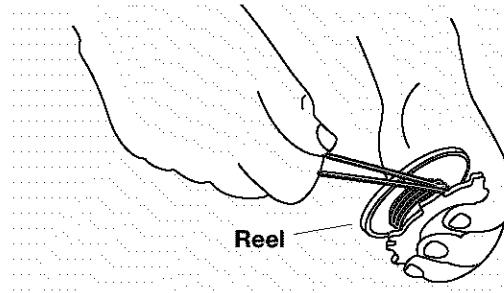

Fig. 24
- Place your index finger between the two lines to stop the lines from overlapping (see Fig. 24).
- Wind both lines at the same time in even and tight layers onto the reel, in the direction indicated on the reel (Fig. 24).